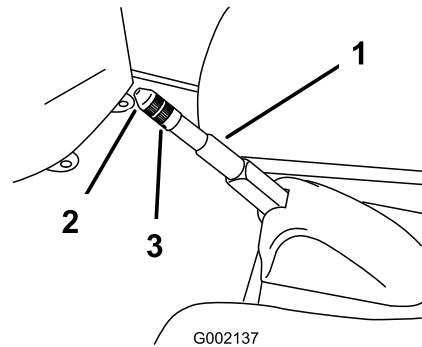

Figure 38
2. Loosen the set screw securing the knob to the parking-brake lever (Figure 38).